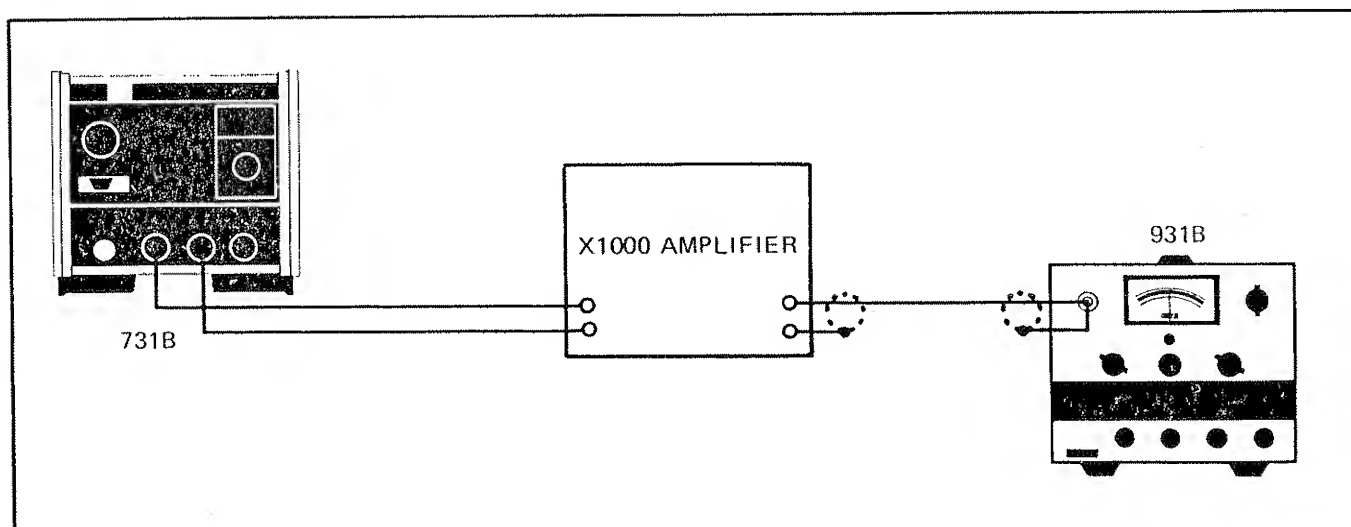

Figure 4-3. EQUIPMENT CONNECTIONS FOR 1 HZ TO 1 MHZ OUTPUT NOISE TEST.
- Connect equipment as shown in Figure 4-3.